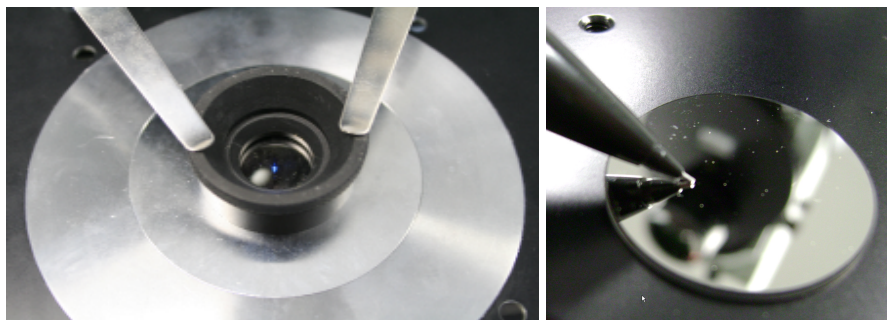

Fig. 3.1: Cover slide mounted as a test sample (left) and mirror with coated side facing upwards (right)
3. Mount a clean glass cover slip of standard thickness #1 or #1.5. It should be mounted in a holder (see Fig. 3.1) Instead, you can also use the PicoQuant Fluorescence Microscopy Standard Slide or a mirror. (can be found in the toolbox)